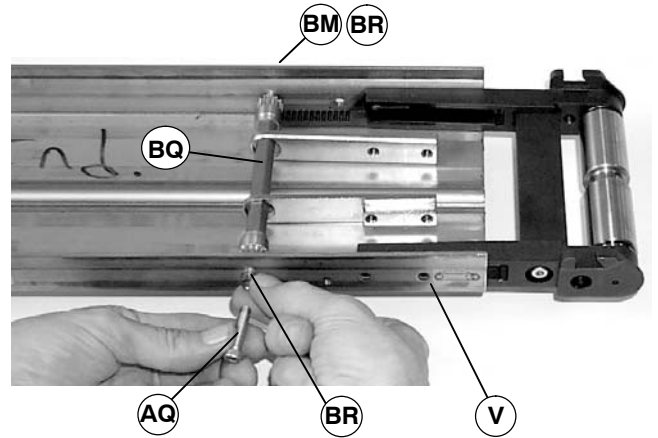

Figure 43
2. While holding hex pin (BQ) with a 3/8” open-end wrench, loosen screw (AQ).
3. Remove screw (AQ of Figure 43) and sleeve (BR) from conveyor (V) and hex pin (BQ).